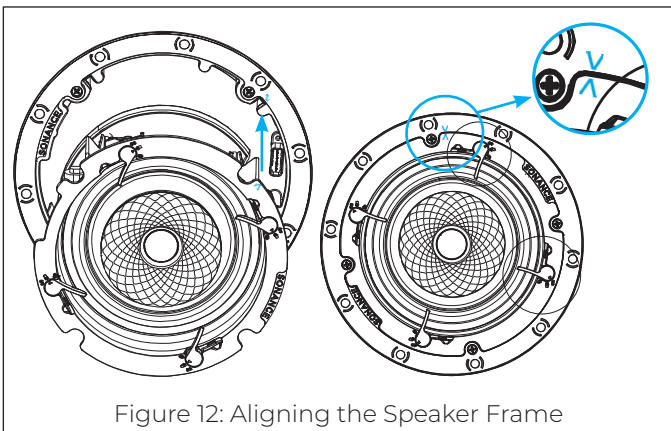

Figure 12: Aligning the Speaker Frame
11. Firmly and fluidly snap the VX speaker module into the installed VX speaker frame. Line up the bright blue alignment fin of the speaker module with the matching blue alignment notch on the speaker frame (see Figure 12).